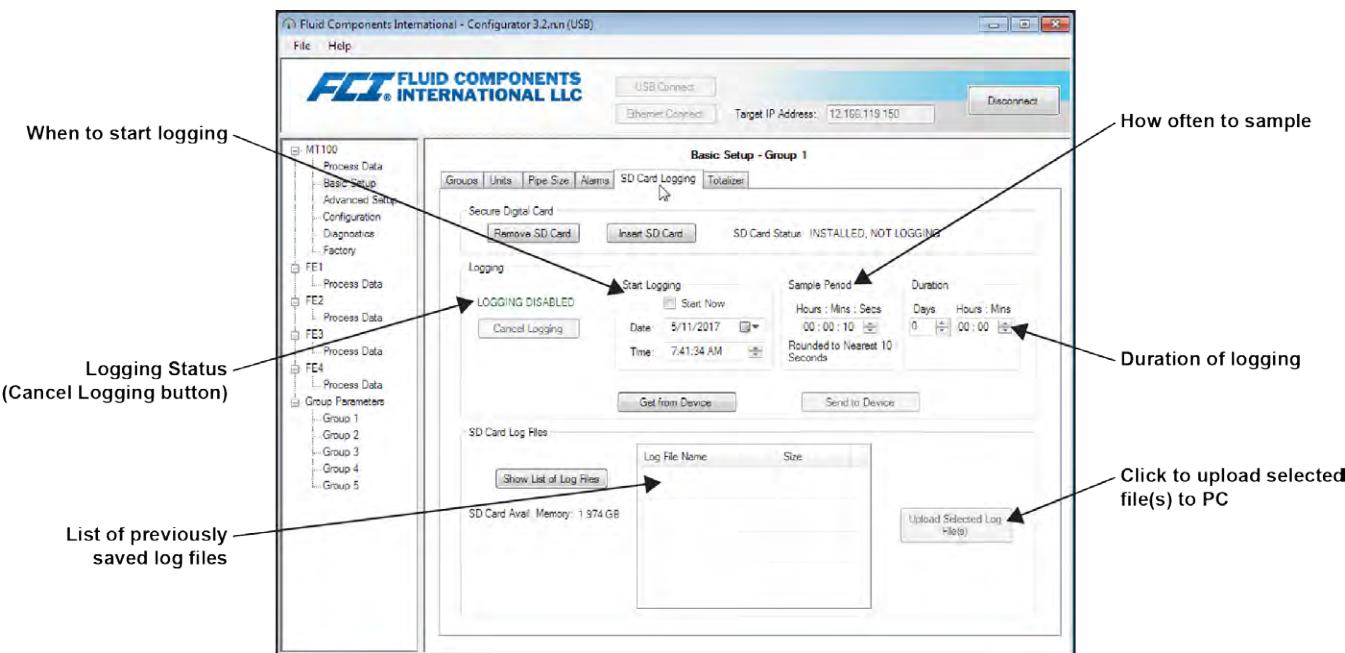

Figure 32 – SD Card Data Logging Example Screen (MT100 Configuration Software)
After installing the microSD card in the system use the MT100 Configuration Software application to configure and start/stop data logging. An example SD Card Logging tab screen is shown in Figure 32 below. Configure the *Logging* section of this screen to set up data logging.
- Upload selected log file(s) to a PC using a USB cable and the MT100 configuration software: Start the MT100 configuration software. Click **USB Connect** on the home screen. Select the *Basic Setup* branch from the menu tree on the window's left side. Select the **SD Card Logging** tab. Refer to Figure 32 on page 35. In the *SD Card Log Files* frame click **Show List of Log Files**. Select the desired file(s) from the list displayed. Click **Upload Selected Log File(s)**. A Windows Explorer file dialog pops up showing the host computer file locations. Select the desired location to store the file and click **OK**. The file is then copied to the specified host computer location.